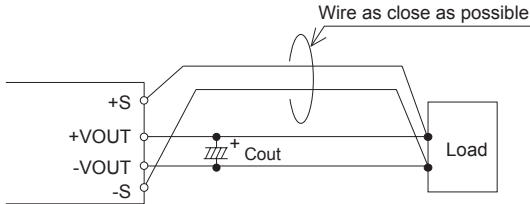

Fig. 3.3 When Remote Sensing is Used
(5) Reverse Input Voltage Protection
- Avoid applying reversed-polarity voltage to the power module as it will damage the power module. To protect the power module from reversed polarity voltage, installing an external diode as shown in Fig. 3.3 is recommended.